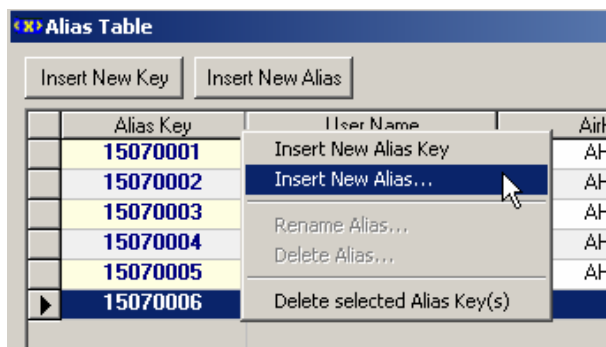

Figure 9.20. Creating a New Alias
1. To add a new alias to the alias table, right-click inside a column and select **Insert New Alias** from the pop-up menu, as shown in **Figure 9.20**.